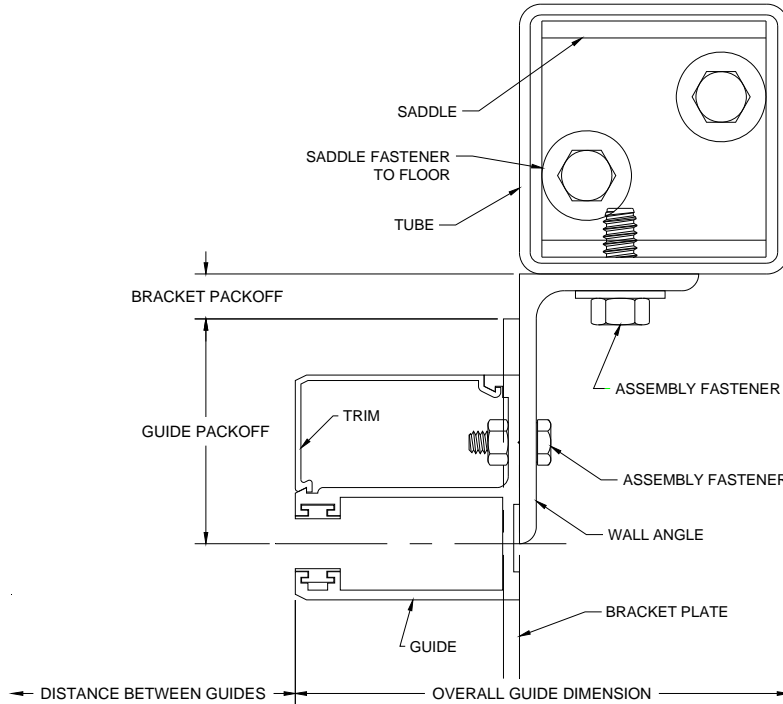

Figure 5.3– Face of Wall “Z” Guide Mounting to Tube
▪ **Face of Wall and Between Jamb Units Mounting to Free-Standing Tubes (Figures 5.3 - 5.4):**
13. If the guide has a wall angle, as in **Figures 5.3 and 5.4**, fasten the wall angle to the mounting tube with the hardware provided. Check the job construction drawings for the required wall fastener. Tighten the wall fasteners to the recommended installation torque in the *Torque Specifications Tables* in **Section 11**.